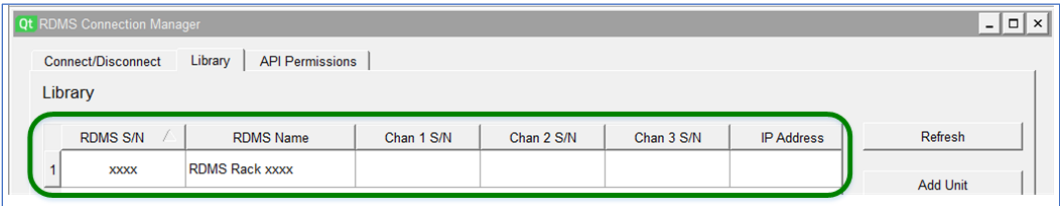
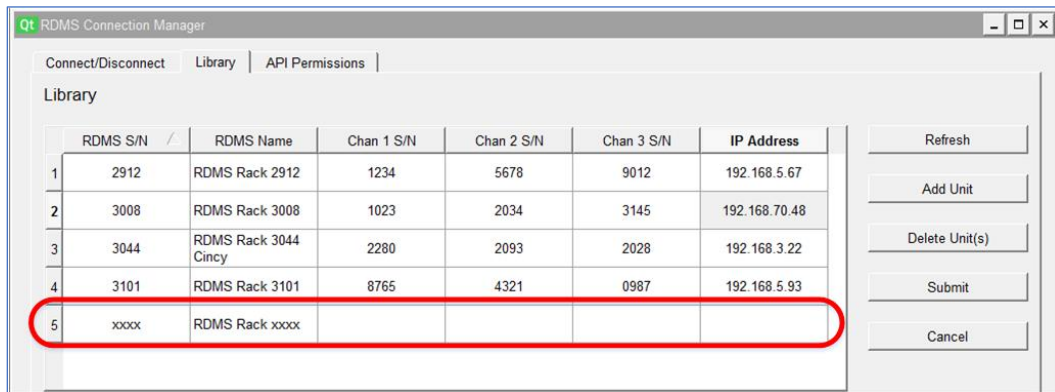

Figure 11: Library Tab, New Row Added to Empty Library List
Figure 12: Library Tab, New Row Added to the Bottom of Existing Library List
1. To add an RDMS, click on the Add Unit button. A new row displays in the Library window, as shown in Figure 11. If the Library already contains entries, a new row displays at the bottom of the list, as shown in Figure 12.